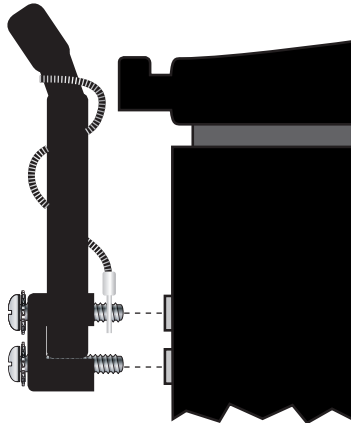

FIG. 2
- 2** With a Phillips head screwdriver, attach the Rubber Latches (G2) with the Wire Loops (G4) to the Dust Bin (B) using the provided Screws (G11B) [FIG. 2].